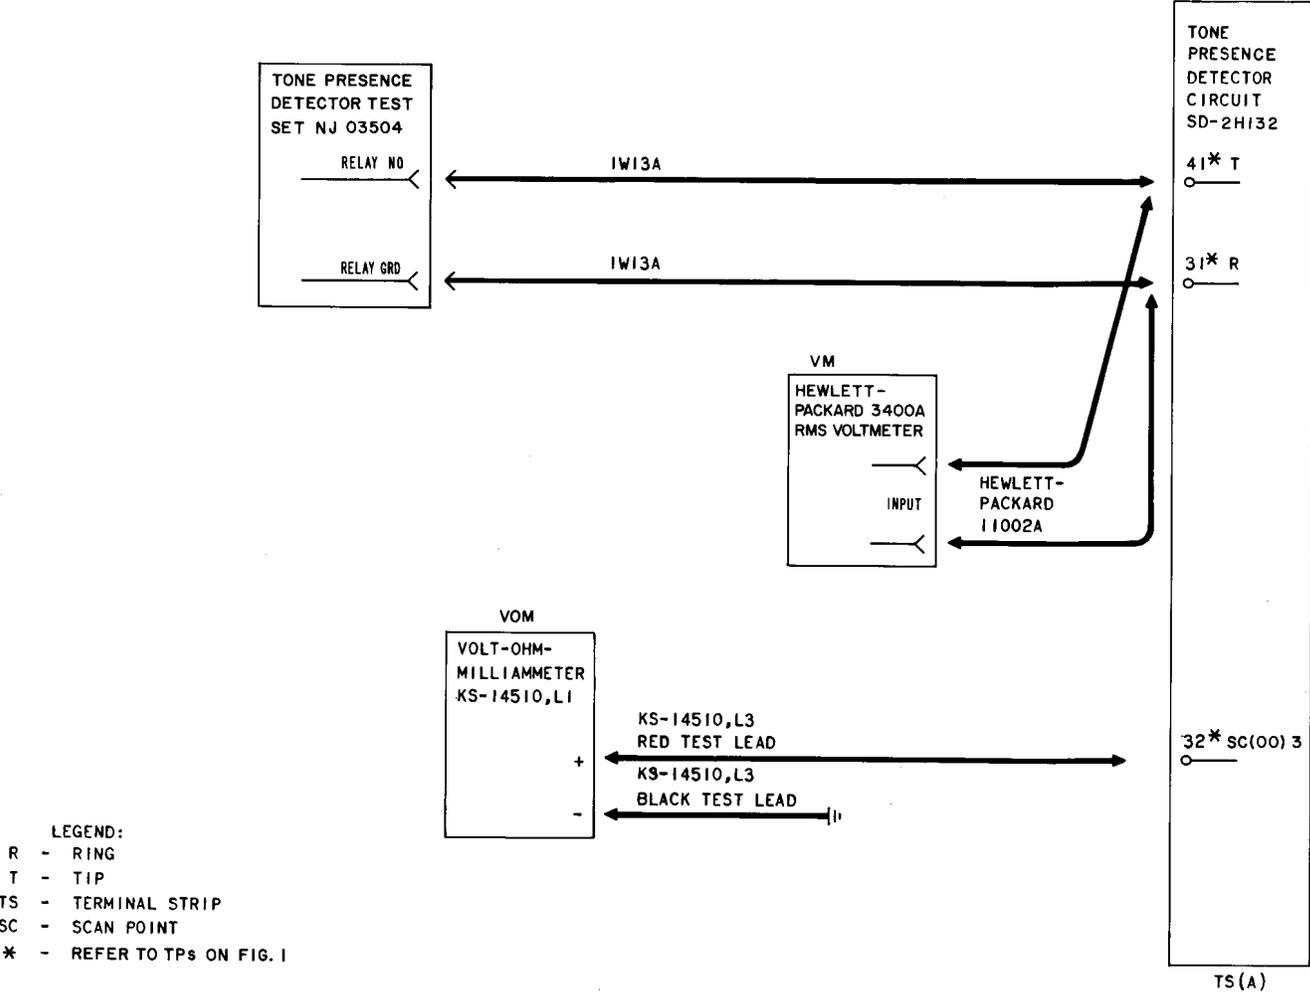

Fig. 2—Adjustments Connections
- 7 Locate circuit to be tested and set up test equipment as shown in Fig. 2.